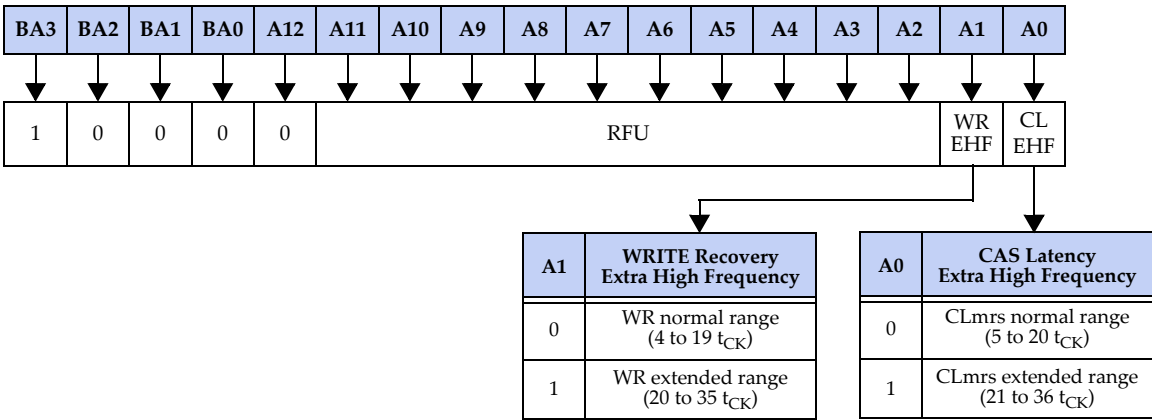

Figure 35 — Mode Register 8 (MR8) Definition
Mode Register 8 defines extensions to CAS latency (CLmrs) and Write Recovery (WR) as shown in Figure 35.